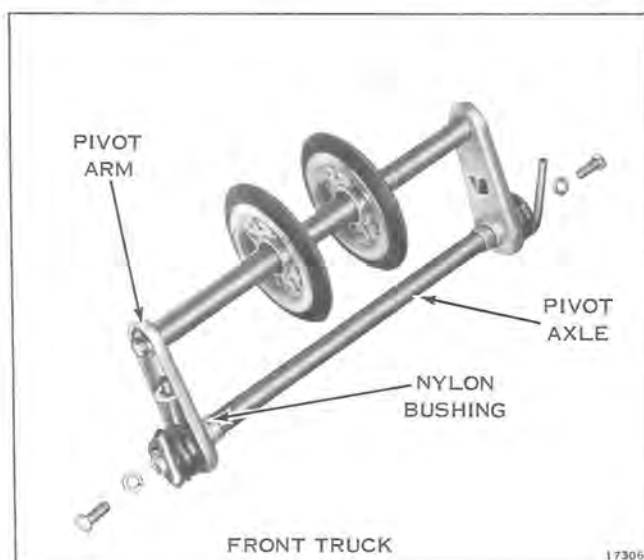

Figure 11-12
5. Check nylon truck bushings for cracks or excessive wear. Replace if damaged. See Figure 11-12.
Assemble wheels and spacers on axle. Application of a light oil on the axles will assist in this procedure. Apply OMC Part No. 114154 grease in bore of nylon bushings and assemble to pivot axles. See Figure 11-12.